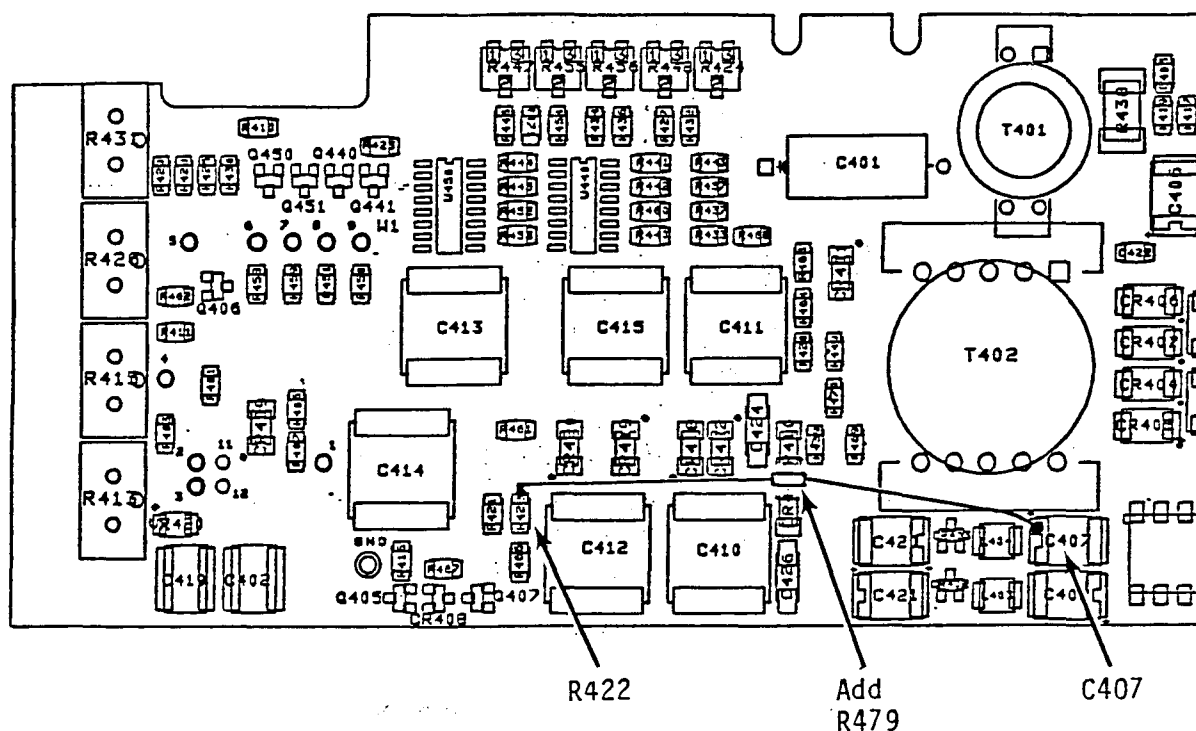

Fig. 1. Power Supply Board Component Locations.
- () 20. Solder one lead of R479, the 2.21k Ω resistor included in this kit, to the solder pad used for the left end of C407 on the Power Supply board. Refer to Fig. 1.
- () 22. Solder the remaining lead of R479 to the solder pad used for R422 that is nearest the center of the Power Supply board. Refer to Fig. 1.